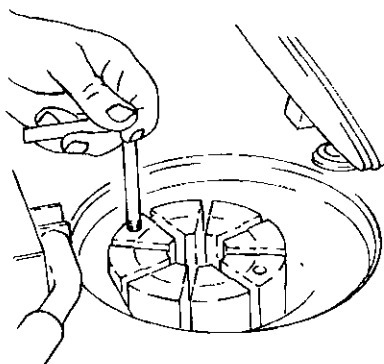

Fig. 5-1
- To remove the rotor, the rotor lifting tool is screwed into one of the two dismantling bores (Fig. 5-1).